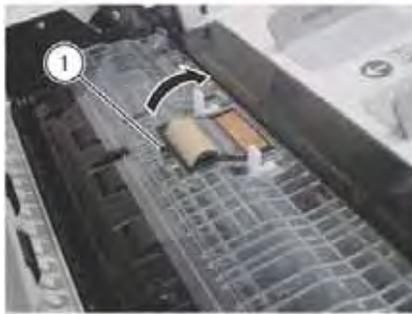

Figure 1 Retard Roll Cover
3. Open the Retard Roll Cover. (Figure 1)